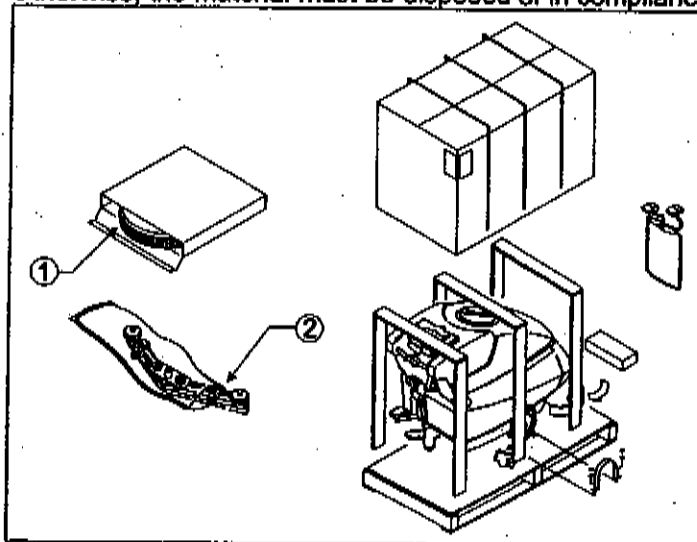

Fig. 5
- unwrap the brushes (fig. 5, ref. 1) and the squeegee (fig. 5, ref. 2) from their packing;